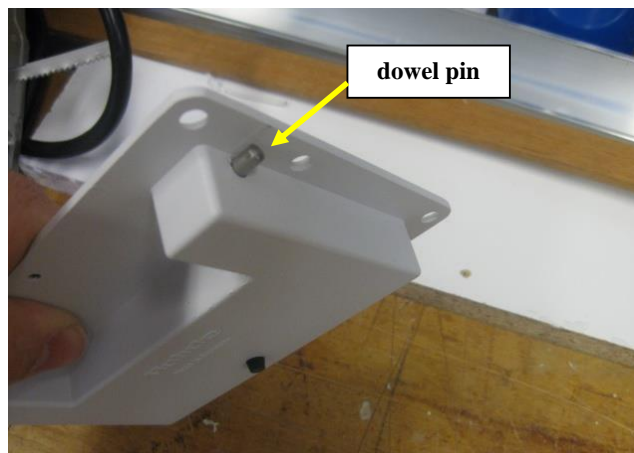

Figure 20
- 11.4. Install two (2) dowel pins (provided with Handle) into each side (see Figure 20). Use a hammer to make them flush.